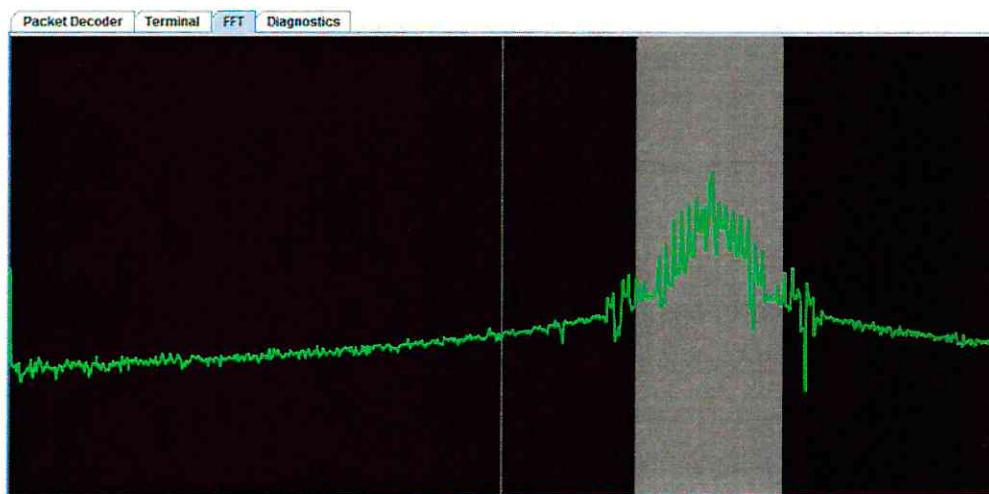

Figure 5.8: FFT center frequency offset
- the user can double click on the signal in the FFT tab: this will retune the receiver and move the gray band on the signal (see Figure 5.8 for details).